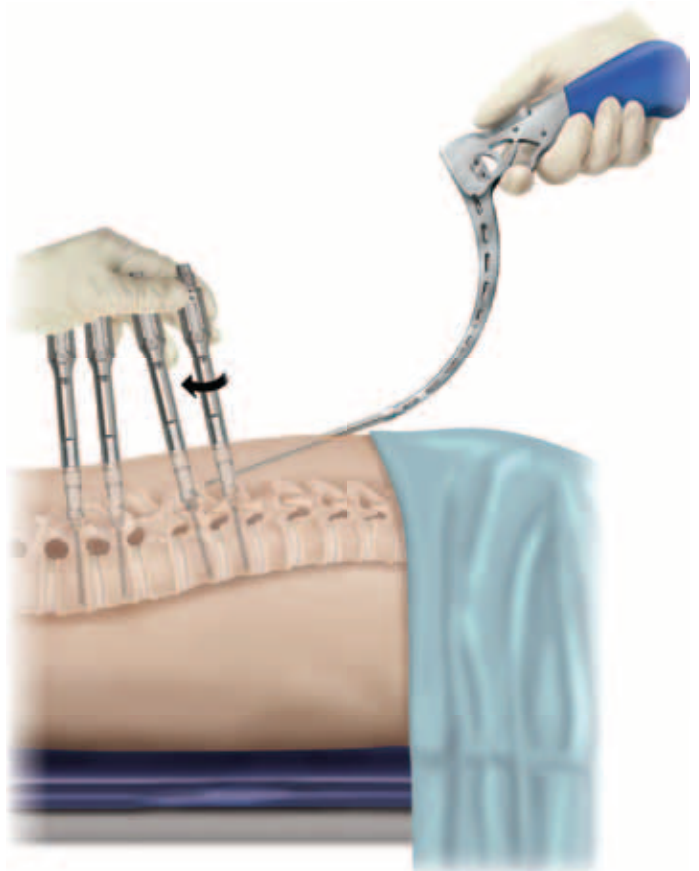

Figure 44
2. If using Multi-Axial Screws, rotate the Extender by hand (**Figure 44**). If the Extender rotates freely, then the Rod has not passed through the Extender.